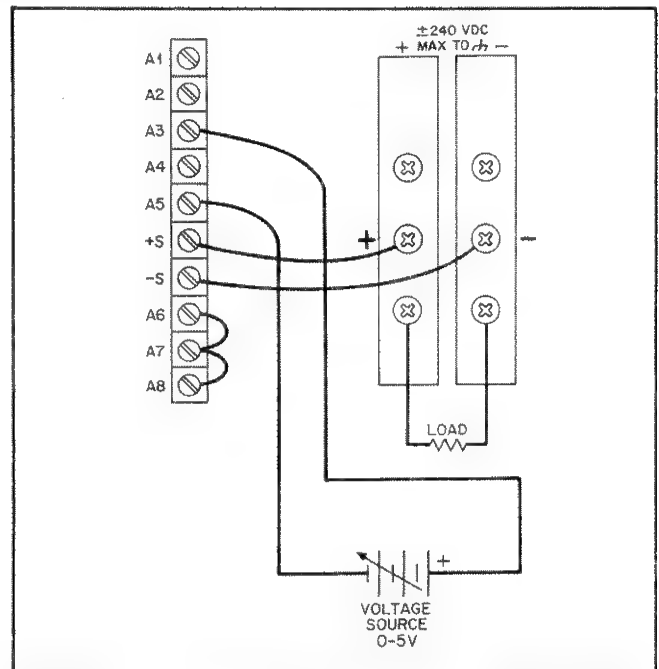

Figure 3-11. Voltage Programming of Output Current
**3-58 Voltage Programming of Output Current.** The rear-panel connections shown in Figure 3-11 allow the output current to be varied by using an external voltage source to program the supply. The discussion in Paragraph 3-53 for constant voltage operation also applies for constant current operation.